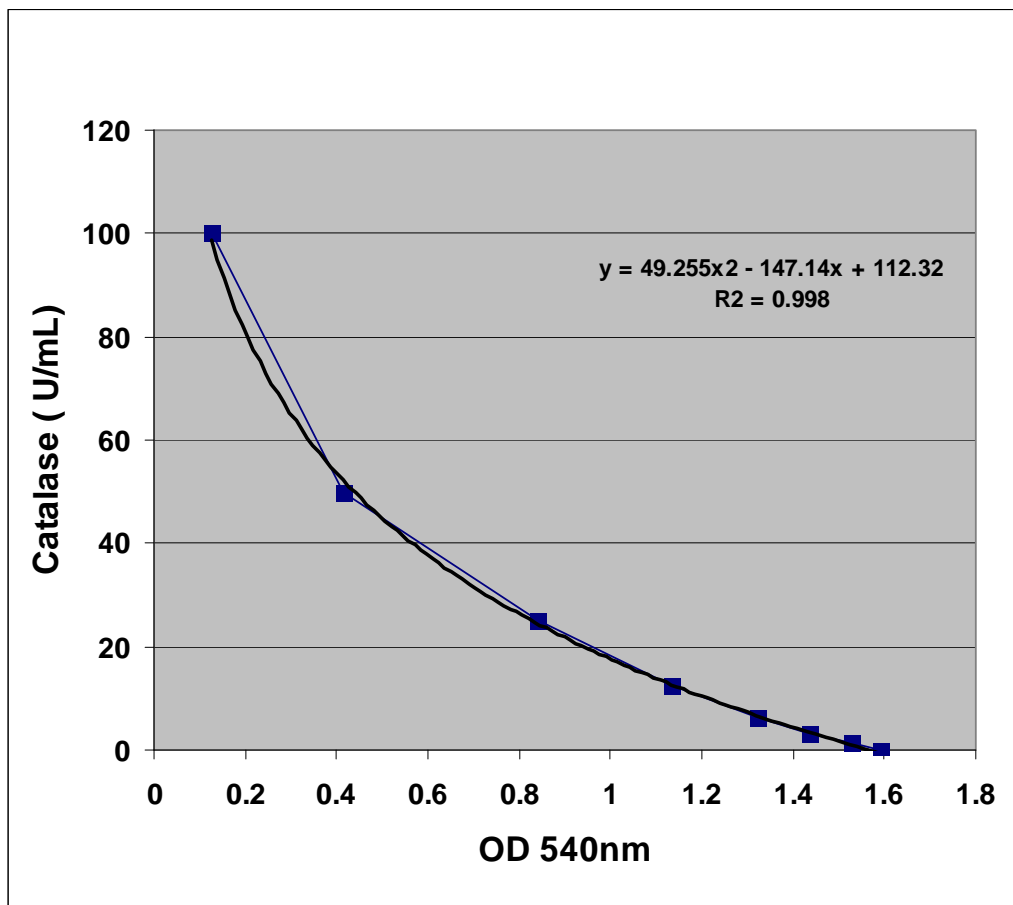

Figure 3: Catalase Activity Assay Standard Curve with second order polynomial equation.
1. Plot the catalase standard curve, similar as Figure 3, use OD 520 nm for X axis and Catalase amount as Y axis.